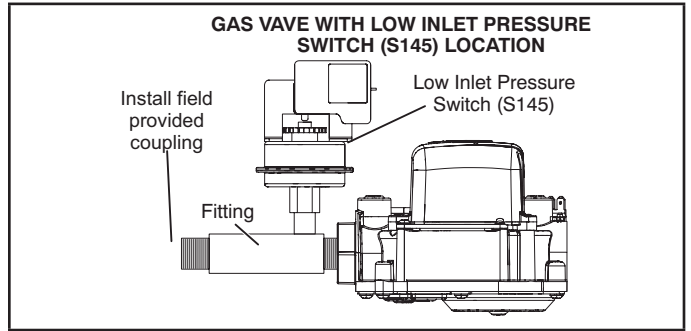

FIGURE 4
- 12 - Thread the gas supply to the fitting until hand tight. A field provided coupling may be needed. See figure 4. Using properly sized wrench to support fitting, tighten supply line into fitting 2 to 3 full turns to achieve leak free joint.